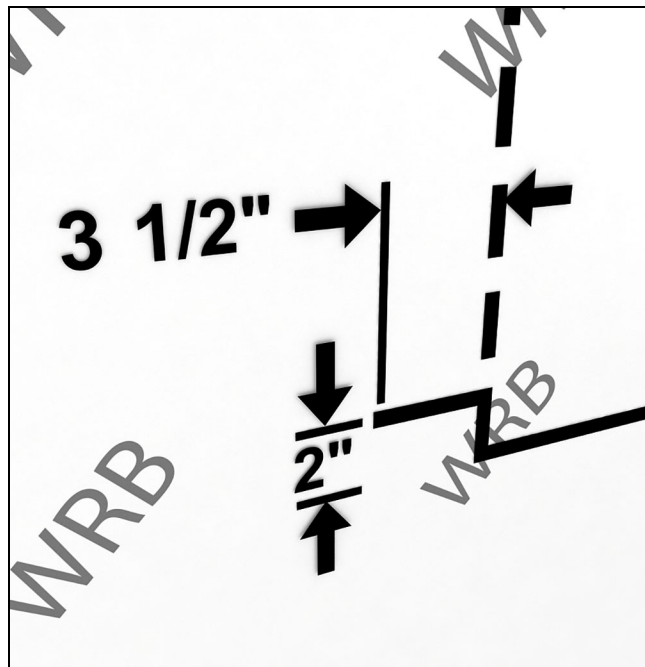

Figure 2
2. Trim up from the bottom corners about 2" (51) and then make an additional horizontal cut about 3 1/2" (89) wide. See Figure 2.